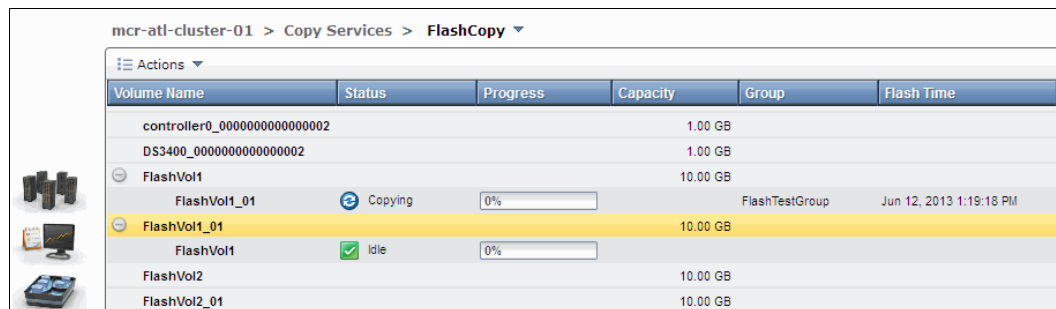

Figure 10-50 New reverse mapping
- The new reverse mapping is now created and shown in the Idle state, as shown in Figure 10-50.